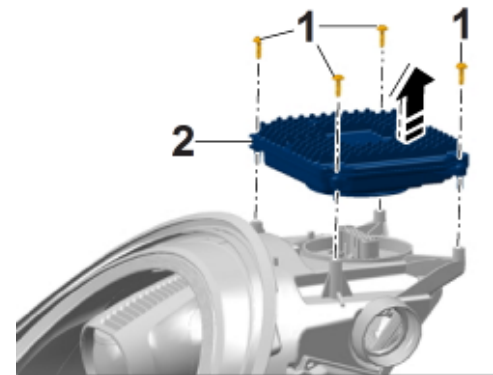

Figure 5
- 2.3 Remove LED module control unit from the standard headlight. ⇒ *Figure 5*